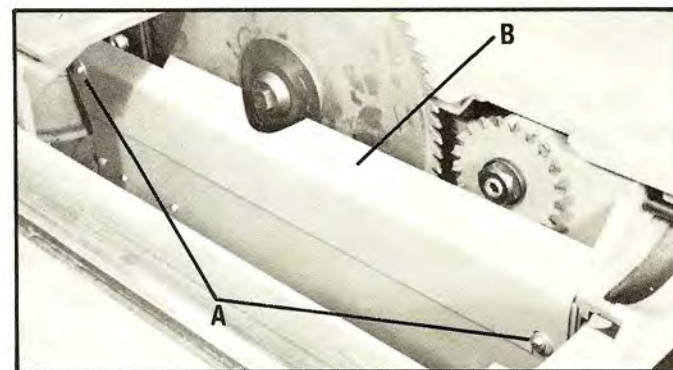

Fig. 30
Loosen two screws (A) Fig. 30, and slide sawdust shroud (B) into place as shown. Tighten two screws (A).